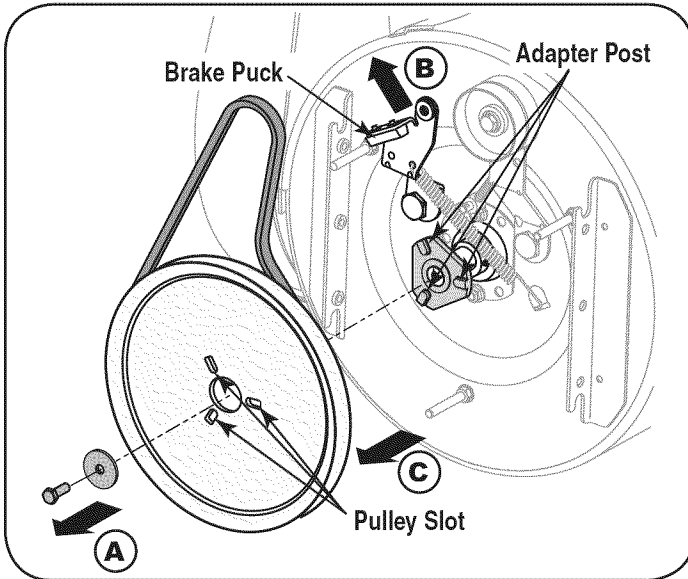

Figure 35
- Block the impeller with a piece of wood to prevent it from spinning and use a 1/2" wrench to remove the hex screw and flat washer from the center of the pulley on the auger housing. See A in Fig. 35.
- Lift the brake bracket assembly out of the pulley groove (B in Figure 35) and slide the pulley assembly off the posts of the auger pulley adapter (C) to remove the old belt.
- Turn the pulley as necessary to align its three slots approximately with the posts of the pulley adapter, then pivot the brake bracket assembly away from the pulley groove. While aligning the pulley slots and adapter posts, push the auger pulley fully onto the adapter. Refer to Figure 35. Ensure the brake puck of the brake bracket assembly aligns and is fully seated in the pulley groove.
**NOTE:** If the pulley adapter was removed with the pulley, align the splines of the pulley adapter and auger input shaft, and push the pulley and adapter onto the input shaft. Refer to Figure 35.